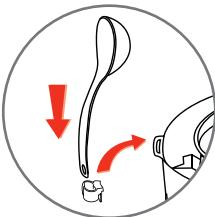

Fig.2
- Install the spoon support: insert the plastic hook of the support in the hole located under product ring, and slide it downwards – **Fig. 2**. Make sure the micro pressure valve is correctly in position - **Fig. 3**.